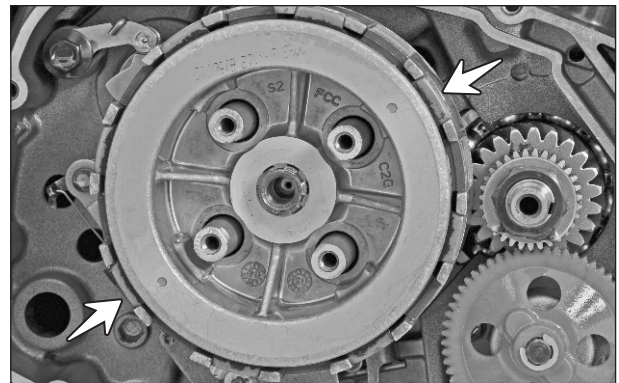

Fig. 3.13
- Pull out disc clutch pressure along with the hub clutch, plate clutch driven (5 nos.) and plate clutch drive (4 nos.) as a set. (Fig. 3.13)